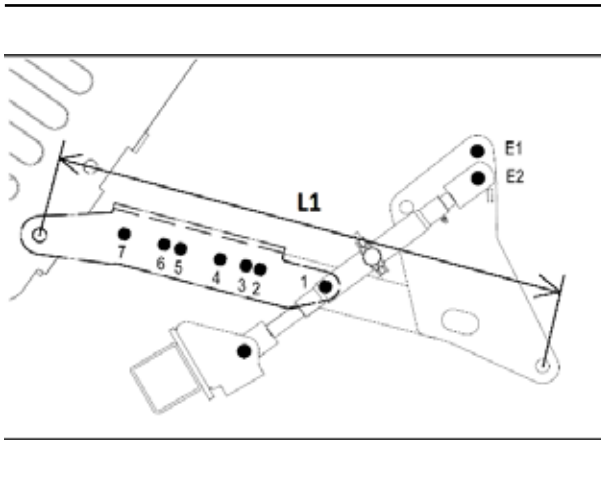

Fig. 13 Installation "auto-level" configuration
2. Assemble the telescopic arms **G** in the correct position according to the machine configuration (figure 13)
5. Fix the tie rod **T3** in the correct holes according to the machine configuration (figure 13)